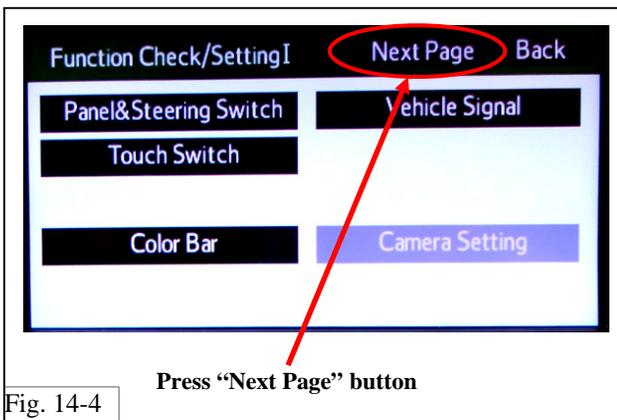

Fig. 14-4 Press "Next Page" button
- (b) Press the "Next Page" button (Fig. 14-4).